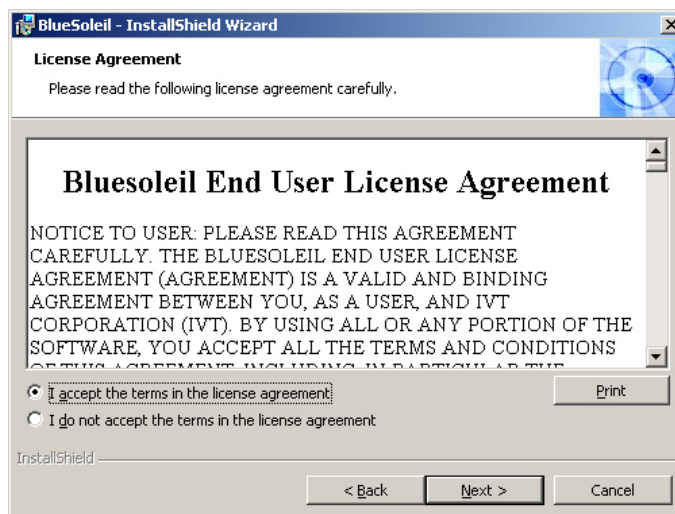

Figure 7-31: License Agreement
Step 4: The license agreement shown in **Figure 7-31** appears. Agree to the license by selecting “I accept the terms in the license agreement”.